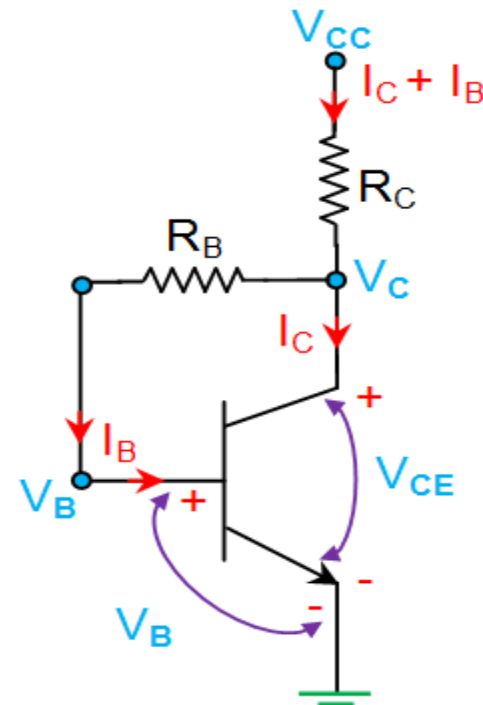

Figure 2 Collector Feedback Bias Circuit
- ⦿ In this circuit (Figure 2), the base resistor  $R_B$  is connected across the collector and the base terminals of the transistor. This means that the base voltage,  $V_B$  and the collector voltage,  $V_C$  are inter-dependent due to the fact that